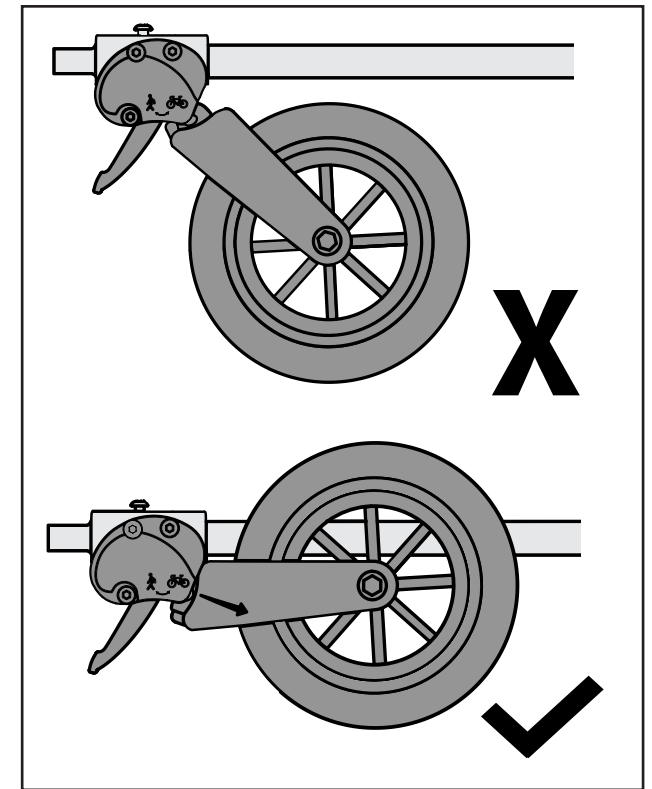
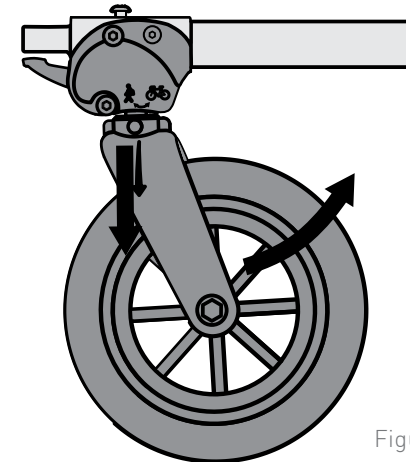

Figure 17
Figure 16
1. Pull fork down (Figure 16) and rotate up into trailer mode as shown. Fork will automatically lock into trailer position when positioned correctly (Figure 17).